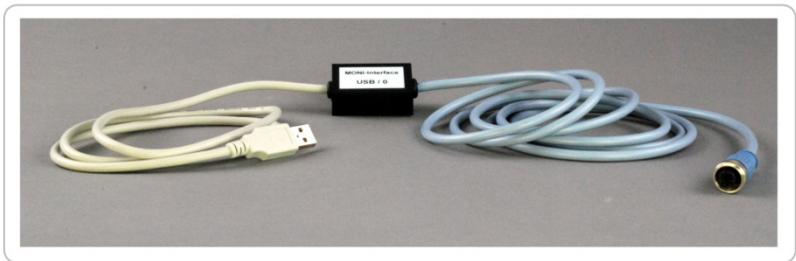

Fig. 5: PC Interface USB-0
1. PC Interface USB-0 (Fig. 5)